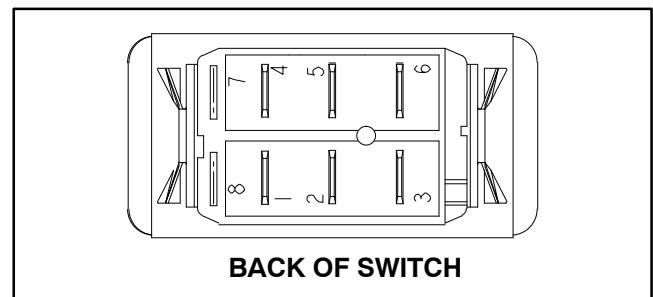

Figure 21
4. With the use of a multimeter (ohms setting), the switch functions may be tested to determine whether continuity exists between the various terminals for each switch position. The switch terminals are marked as shown in Figure 21. The circuitry of this switch is shown in the chart below. Verify continuity between switch terminals for each switch position. Replace switch if testing proves it to be faulty.